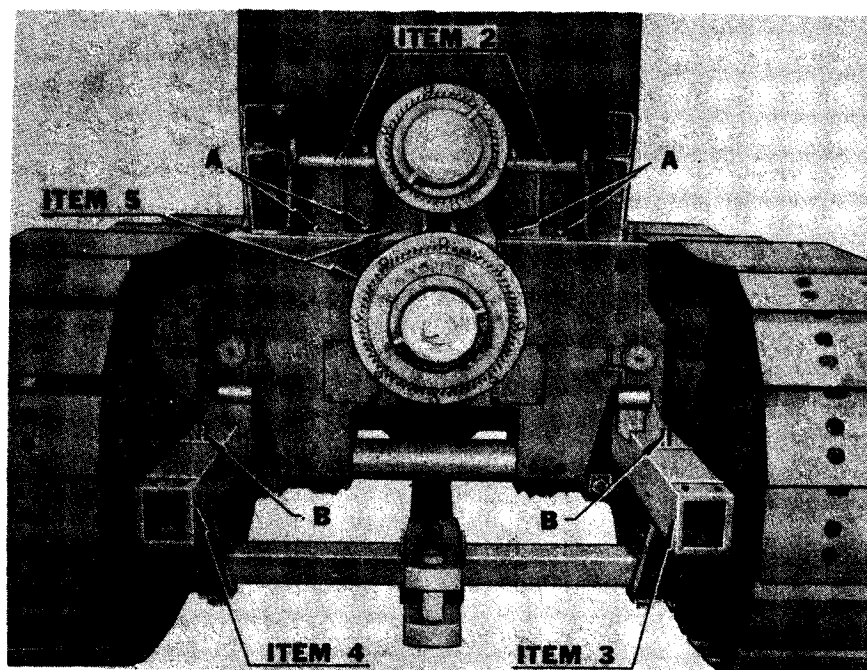

Figure 6 Mounting Parts on Rear Case
ITEM 2 - Figure 6
Remove the four bolts designated (A), Figure 6. Place the brackets in position.
Fasten control brackets (Item 2), Figure 6, to the rear edge of the tractor main frame casting.
ITEM 3 - Figure 6
Set the support (Item 3), Figure 6, in place. Use nuts and lock washers furnished with the tractor to hold the support.
ITEM 4 - Figure 6
Set the left support in place (Item 4), Figure 6, and bolt to the tractor, using nuts and lockwashers furnished for the original drawbar brackets.
ITEM 5 - Figures 6 and 7
Observe studs (B) in Figure 6. Raise
the hoist assembly and hold in a level position as it is lowered on to its supporting brackets. Avoid stripping threads on studs (B), Figure 6. The two studs go through holes in the front base angle.